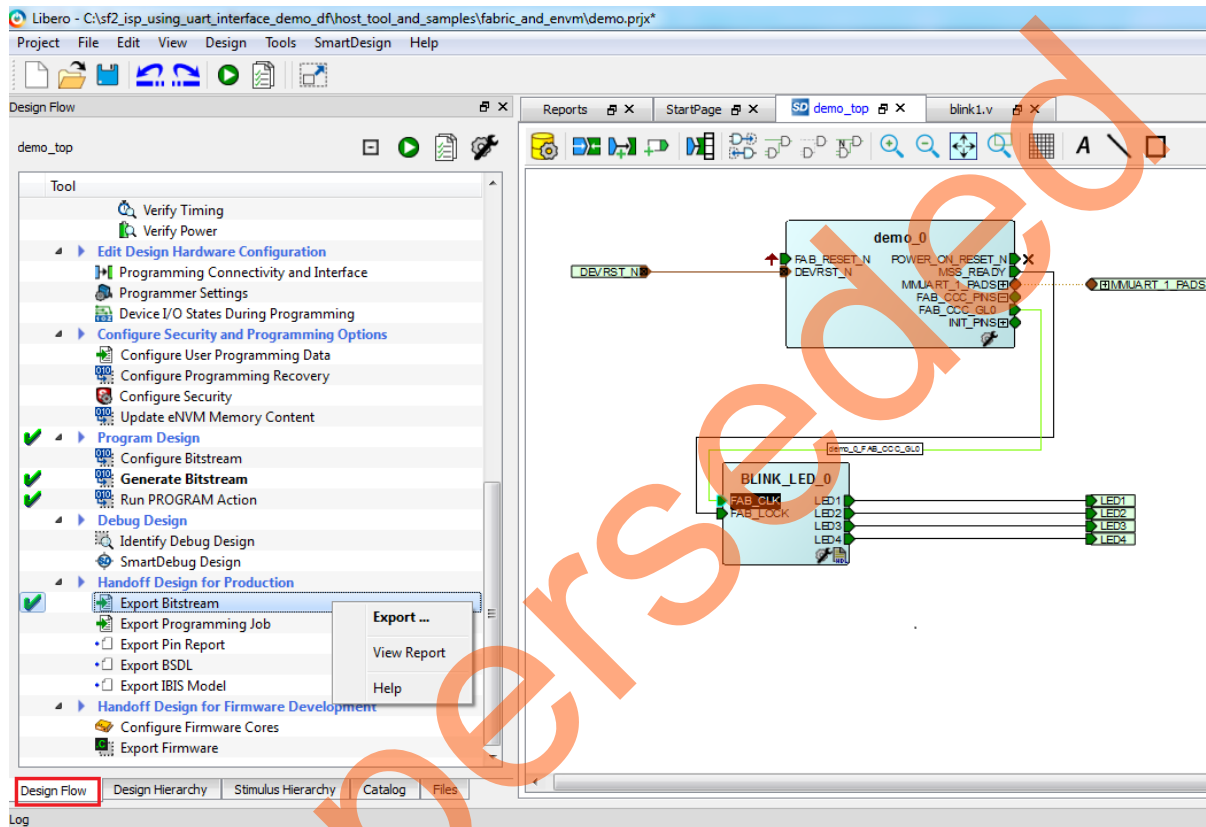
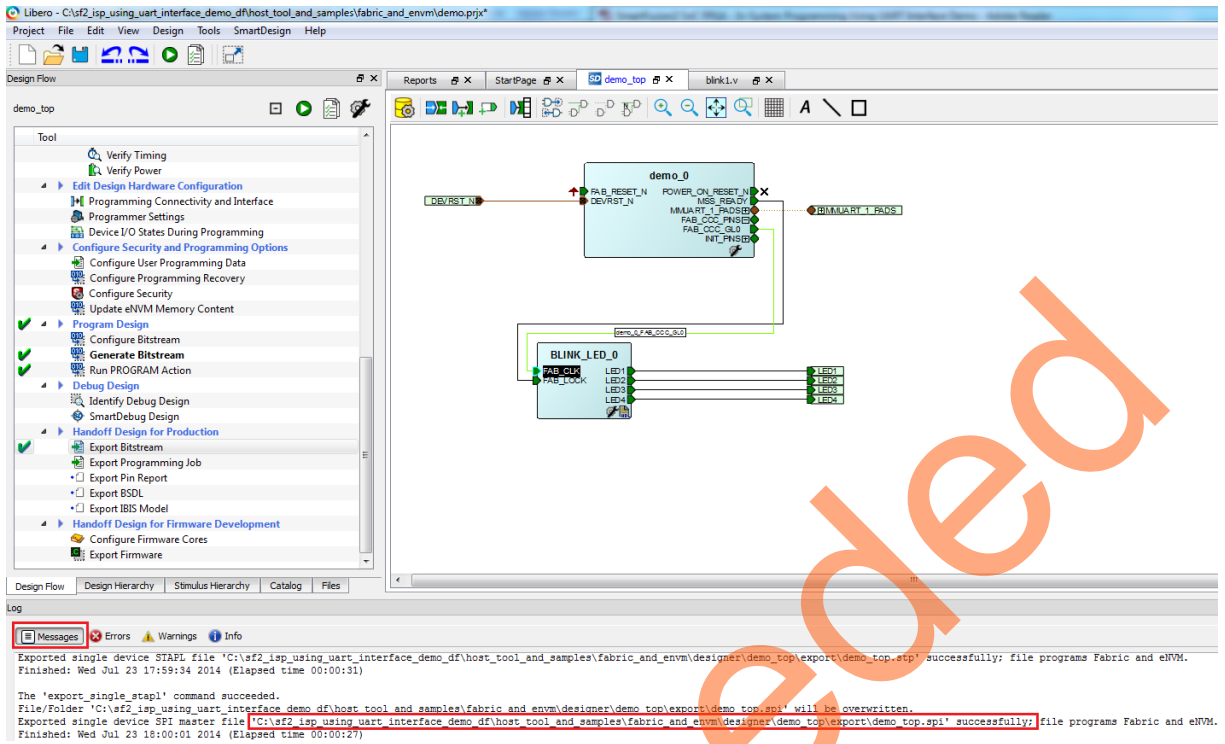

Figure 17 • Configuring Export Bitstream
Figure 19 • .SPI File Location
5. Double-click **Export Bitstream** under **Handoff Design for Production** in the **Design Flow** tab to generate the .spi file (Figure 17 on page 23). Figure 19 on page 25 shows the .spi file location in **Messages** tab.